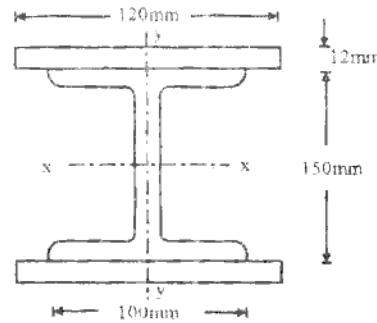

Fig. 5
5. Fig. 5 shows a built up. Column consisting of 150mm x 100mm R.S.J. with 120mm x 12mm plate rivetted to each flange. Calculate the safe load, the column can carry if its is 4m long having one. 16